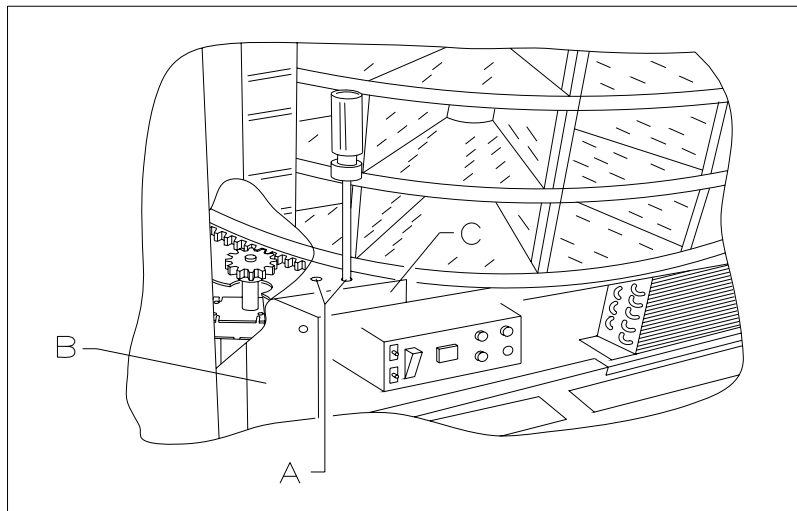

FIG. 16
2. Open the door and remove the supporting bracket Ref. B FIG. 16.
3. Remove the plugs Ref. A FIG. 16 and unscrew the cover plate Ref. C FIG. 16.